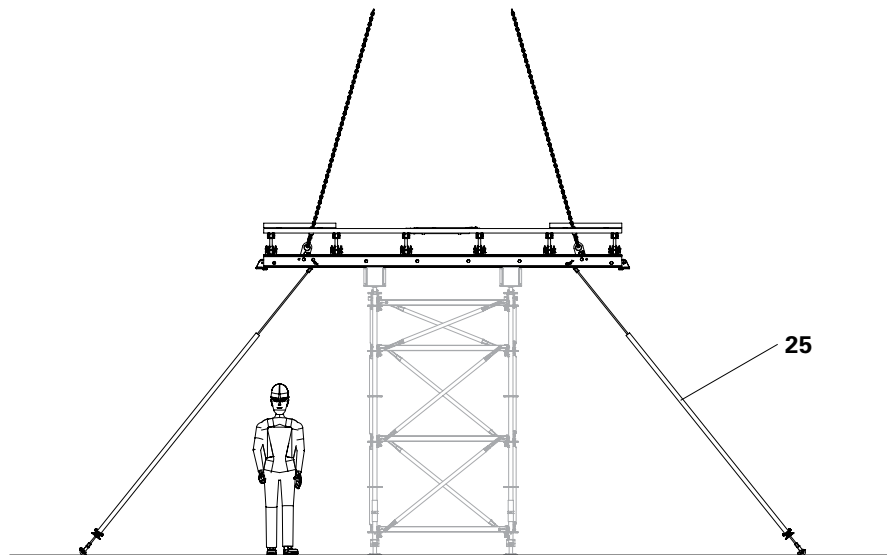

Fig. C4.03
1. Bolt the vertical struts (25) to the Platform Beams of the Shaft Platform. See "Mounting the suspension" on page 49. (Fig. C4.03)